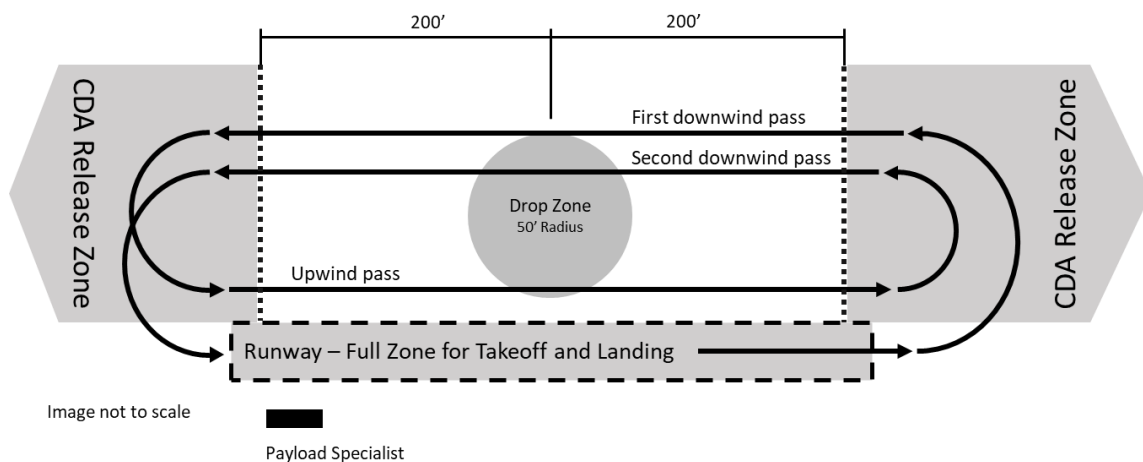

Figure 8-1 – Advanced Class Flight Profile and CDA Release Zones. Not to Scale.
3. Teams may release the CDA(s) at any point in their flight pattern, as long as they adhere to 8.15.1 and 8.15.2. See Figure 8-1.
Advanced Class teams will follow the flight profile shown in Figure 8-1. Aircraft will takeoff in the upwind direction, make a downwind pass, upwind pass, and a second downwind pass before landing. CDAs may be released any time the aircraft is in the release zone. Supply drops may be released during any of the passes over the drop zone.